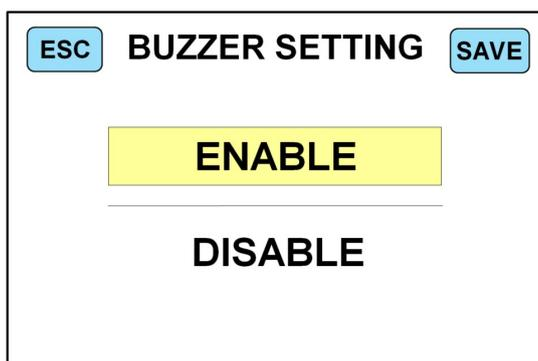

Figure 48
2) Touch “**2. Buzzer On/Off**” to enter the buzzer setting interface, as shown in Figure 48 below: